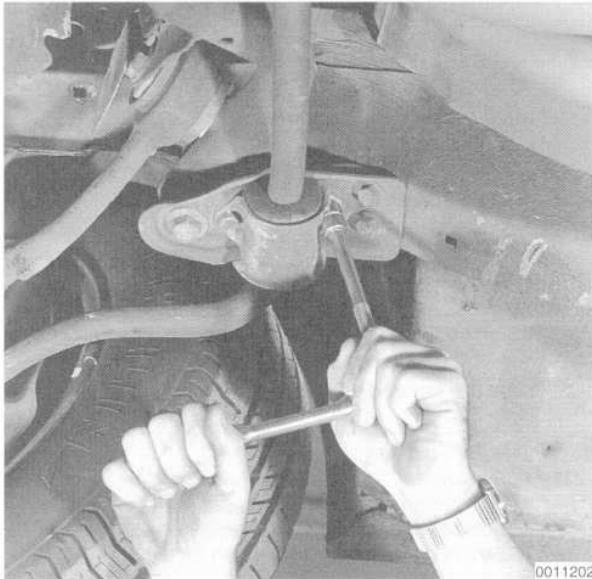

Fig. 13. Stabilizer-to-crossmember mounting bracket being removed.
- Unbolt the two stabilizer bar bushing brackets and remove the bar. See Fig. 13.